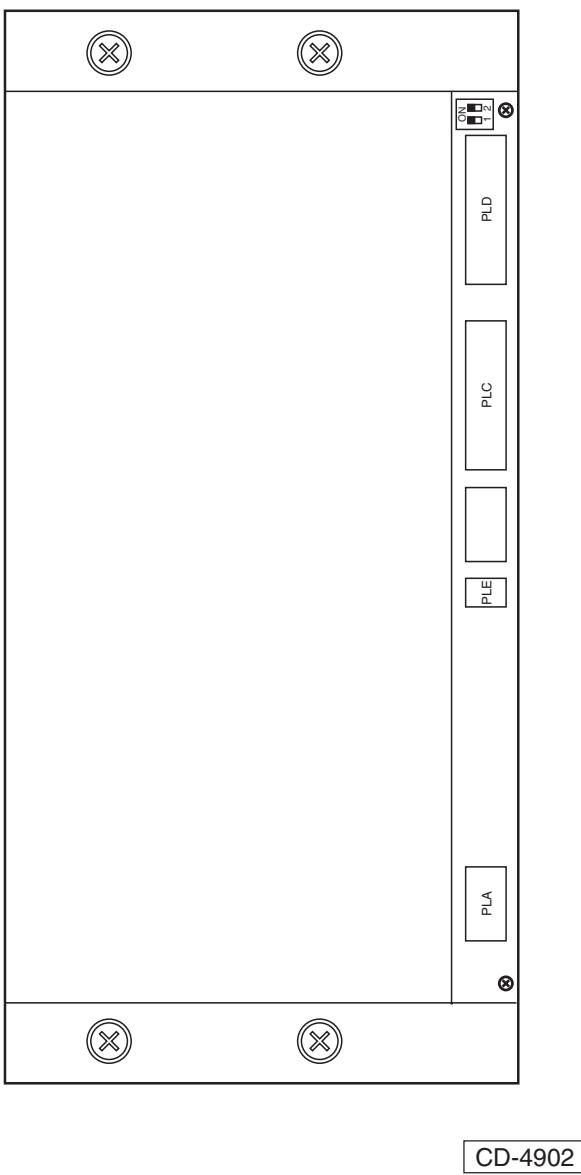

Figure 4d - Power Supply Unit (45-677-124): Switch Positions
- 31 There are two switches on the Power Supply unit (45-677-124), which are used to set the required antenna rotation supply (see Figure 4d). Set the switches as follows: